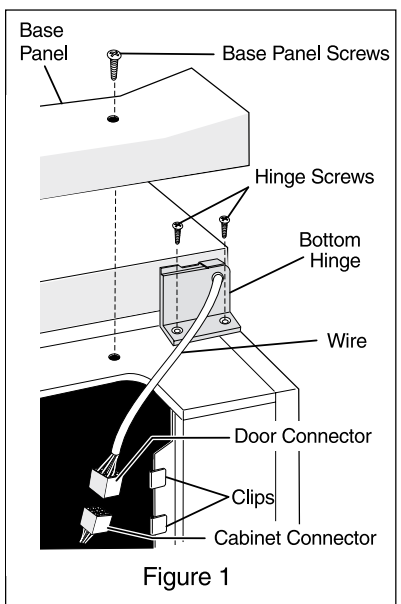

Figure 1
2. Remove two base screws and base panel. Remove wire from clips on bottom of cabinet. (Figure 1)
3. Unplug connector, if required, by holding the cabinet connector in place, and pulling door connector out. (Figure 1)
4. Remove bottom hinge screws. (Figure 1)
### Temp Alarm (audible only or audible with warning light - see Figure 1)
- **On upright models** with a defrost drain (Figure 1), remove drain plug on the inside floor of the freezer by pulling straight out. To access external drain tube on models with a base panel, first remove the two screws from the base panel. Locate the drain tube near the left center under the freezer. Place a shallow pan under the drain tube. Defrost water will drain out. Check pan occasionally so water does not overflow. A  $\frac{1}{2}$  inch garden hose adaptor can be used to drain the freezer directly into a floor drain. If your model is not equipped with an adaptor, one can be purchased at most hardware stores. Replace the drain plug when defrosting and cleaning are completed. If the drain is left open, warm air may enter freezer.